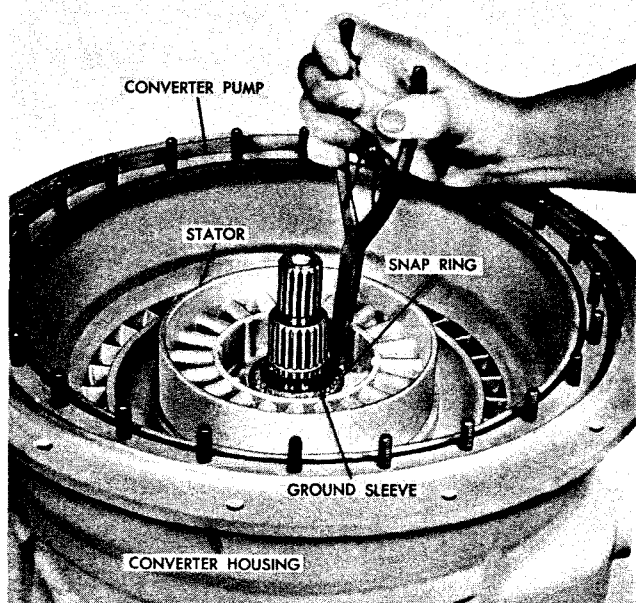

Fig. V-13. Removing external-snap ring from converter ground sleeve, and removing stator
(2) Using snap ring pliers, remove external-snap ring from converter ground sleeve. Remove stator (fig. V-13).